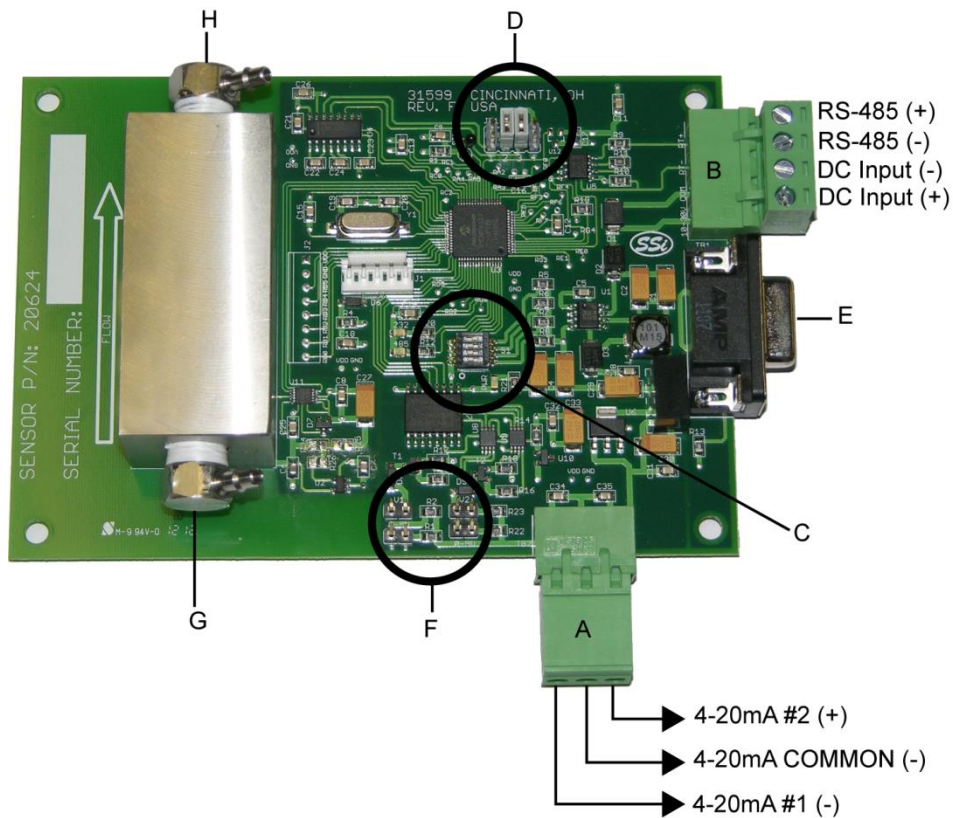

Figure 2 - H2 Sensor Wiring
Wiring: See Figure 2.
(Items "A" and "B" in Figure 2)
There are two terminal blocks on the H2 cell circuit board. Figure 2 shows their locations.
(Item "C" in Figure 2)
(Item "D" in Figure 2)
Four jumper terminals can be found on the board approximately 1.5" (3.81cm) to the left of the RS-485 connections (specifically, when looking at the board in the orientation shown in Figure 2). These jumpers determine the pins that transmit and receive data via RS-232 communication. The jumpers should be on Pins 2 and 3 for normal Modbus RTU operation (pin 2 is receiving and pin 3 is transmitting). The jumpers should be on Pins 1 and 4 if the sensor is being used to communicate via the simple ASCII protocol used on the previous version of the SSI Hydrogen Sensor (pin 2 is transmitting and pin 3 is receiving).
*(Item "E" in Figure 2)*
*(Item "F" in Figure 2)*
*(Items "G" and "H" in Figure 2)*